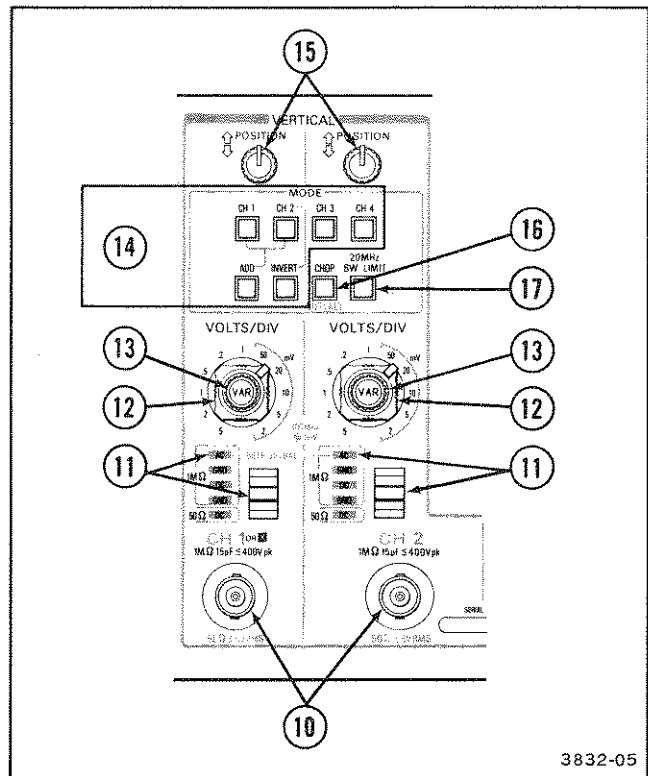

Figure 3-2. Vertical controls and CH 1 OR X and CH 2 connectors.
Refer to Figure 3-2 for location of items 10 through 17.
- ⑩ **CH 1 OR X and CH 2 Input Connectors**—Provide for application of external signals to the inputs of Channel 1 and Channel 2 vertical attenuators. A signal applied to the CH 1 OR X connector provides the horizontal deflection for an X-Y display. Any one or all of the channels (including Channel 1) may supply the signal for the X-Y display vertical deflection. These connectors each include a coding-ring contact that activates the scale-factor-switching circuitry whenever a scale-factor-switching probe is connected. The internal circuitry recognizes Tektronix attenuation-coded probes.
- ⑪ **Input Coupling Switches and Indicators**—Select the method of coupling input signals to the Channel 1 and Channel 2 vertical attenuators and indicate the selection made. If the Channel 1 and Channel 2 input signals are both AC coupled and if both input coupling switches are pushed up together, the instrument automatically performs a dc balance of Channel 1 and Channel 2 vertical circuitry.